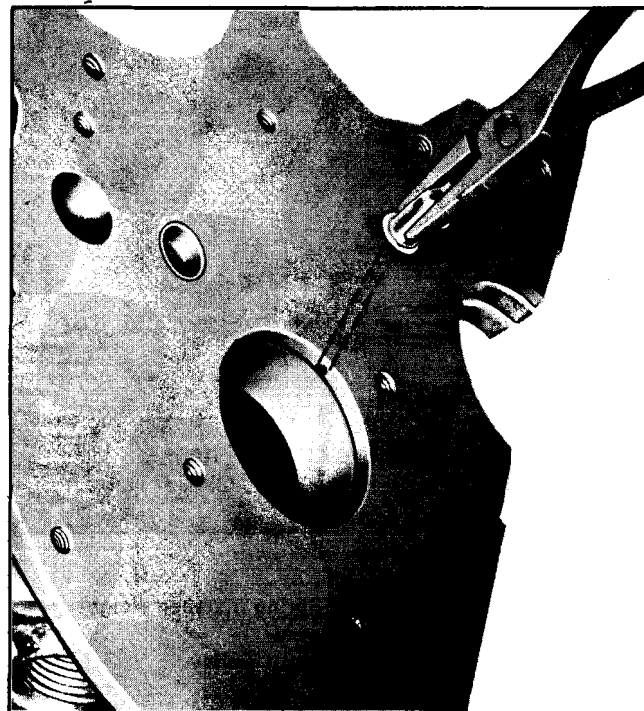

Fig. 6-44 Removing Timing Gear Oil Nozzle
1. Remove nozzle with pliers (Fig. 6-44).